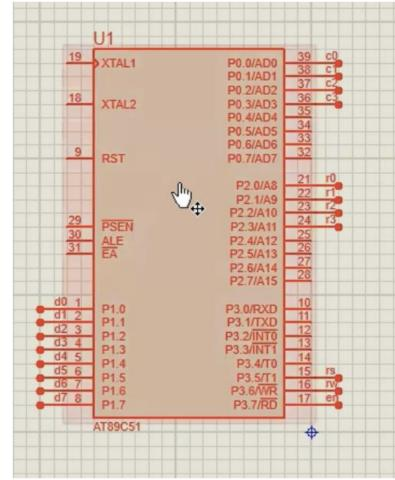
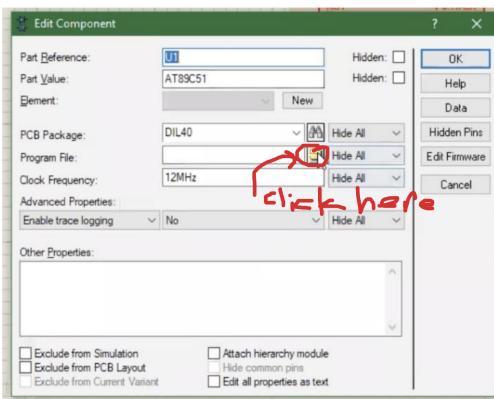

Figure 20: Click on the microprocessor.
Figure 21: You can upload the .hex file to your virtual microprocessor.
8. Now, switch to **MCU 8051 IDE** and compile the test program file ‘TEST.asm’ provided in the folder. If it successfully runs, the ‘.hex’ file is successfully created. Then switch again to Proteus, and click on the microprocessor as shown in Figure 20. You can upload the .hex file to your virtual microprocessor as shown in Figure 21. To do that, choose the ‘.hex’ file after compilation. Please, follow the following Figures 20, 21, 22, 23 for better understanding.